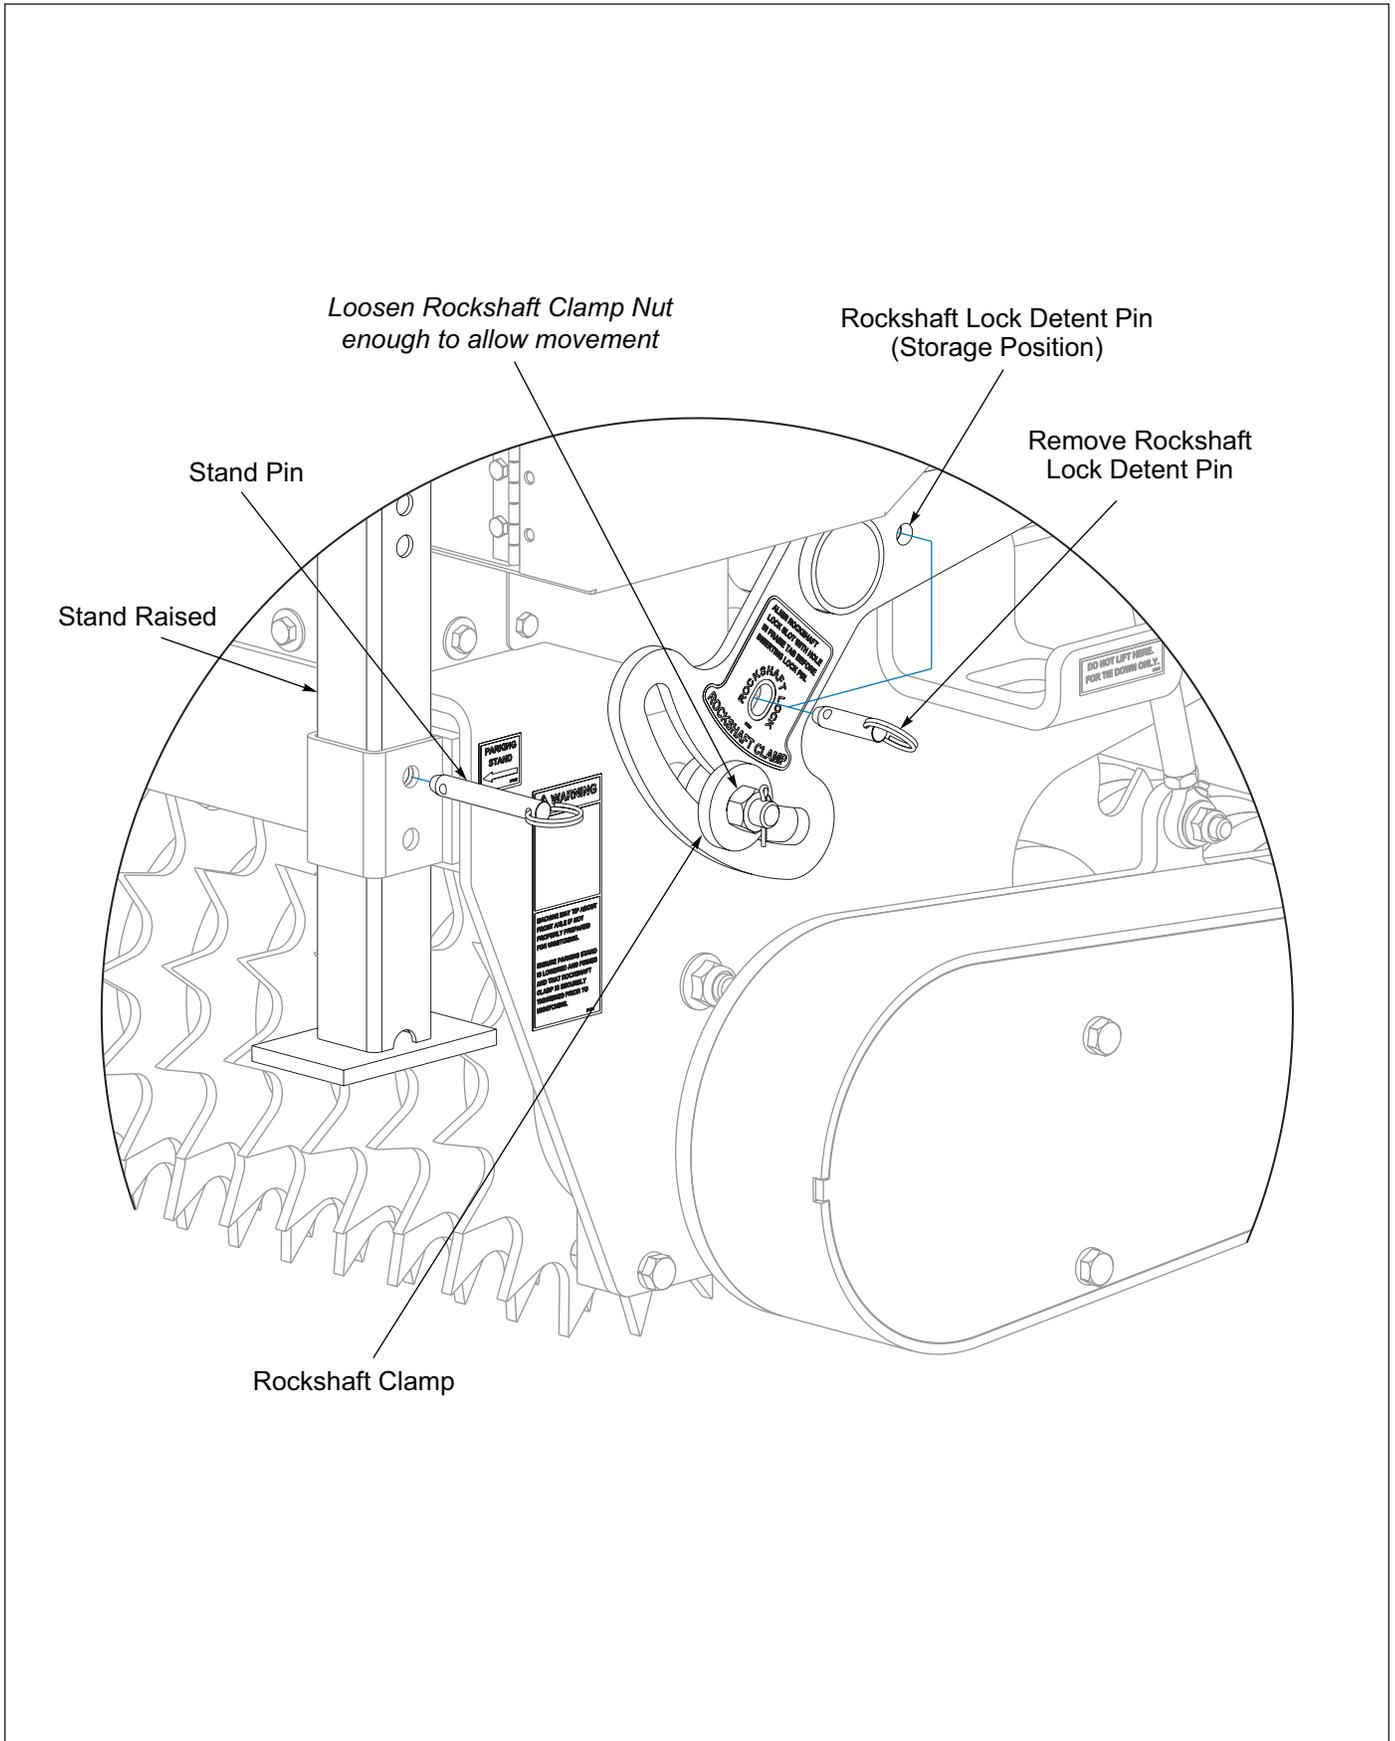

Figure 3-4: Rockshaft Lock
3. Loosen nut on Rockshaft Clamp enough to allow movement and remove the Rockshaft Lock Detent Pin. Insert Detent Pin in storage hole on the Rockshaft Arm. **See Figure 3-4.**
3. Remove Rockshaft Detent Pin from storage on the Rockshaft Arm and install the Rockshaft Lock Detent Pin in the aligned Rockshaft Lock Slot and Frame Tab Hole. **See Figure 3-4.**